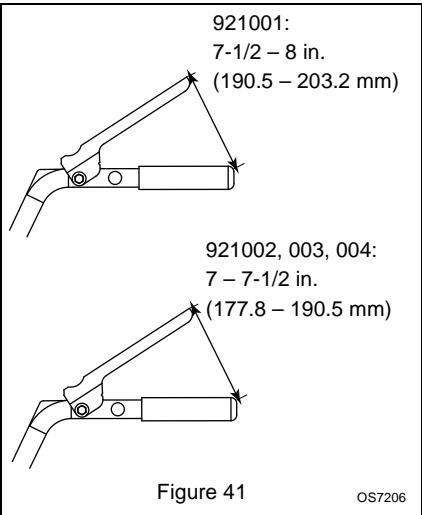

Figure 41
3. Measure the distance between the lever and handlebar when the wheels begin to brake. The distance should be: 7-1/2 – 8 in. (190.5 – 203.2 mm) (921001), 7 – 7-1/2 in. (177.8 – 190.5 mm) (921002, 003, 004). See Figure 41. If distance is out of range, adjust the traction clutch.